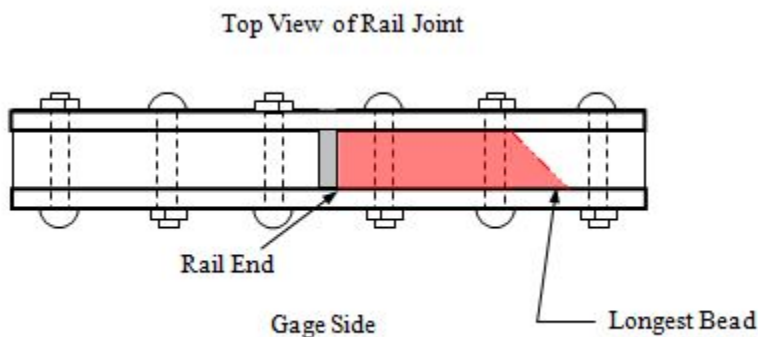

Figure 105C *Weld Bead Pattern*
6. Apply longest weld beads on the gage side of the rail. (See Figure 105C)